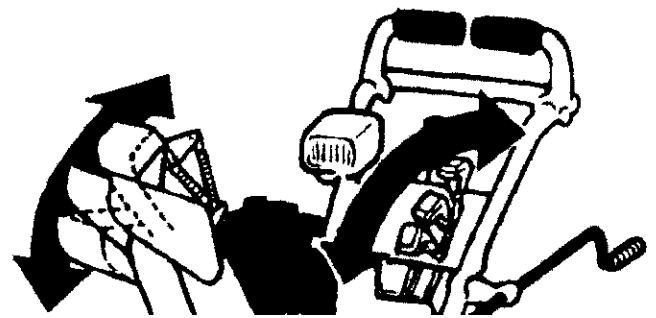

Figure 15
2. Adjust snow chute deflector. Push the remote chute lever forward to discharge snow high and far, pull remote chute deflector back to discharge snow down. (see Figure 15).